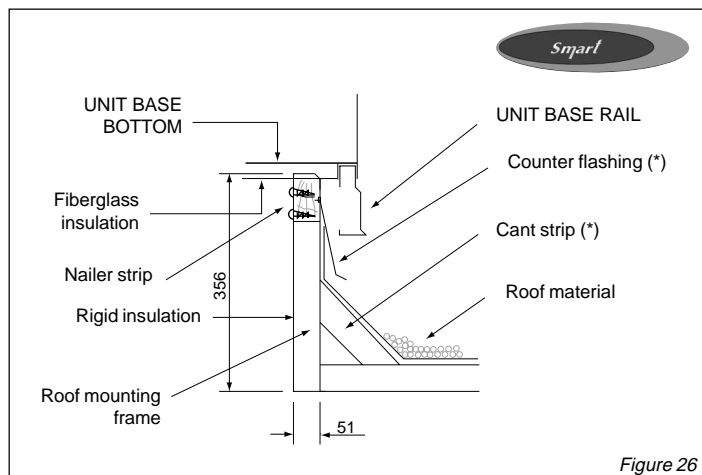

Figure 26
2. Counter-flash and seal around frame as shown in figure 26.